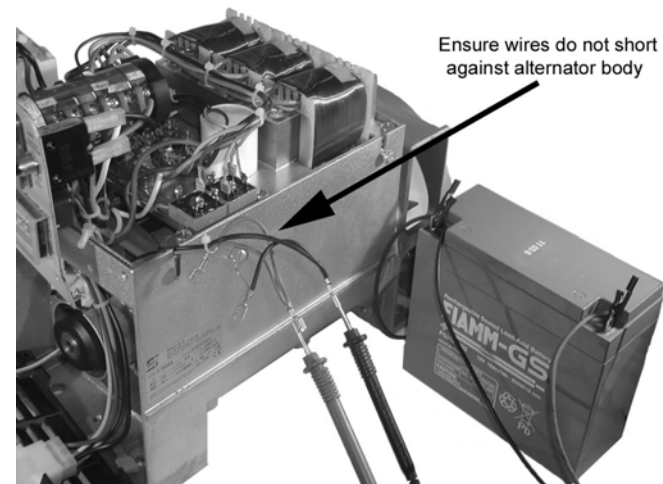

Figure 5
5. Connect a 12 Volt battery directly to the positive and negative leads to the brush assembly (figure 5).